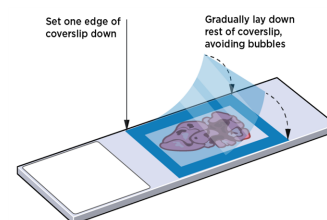

Figure 17: Apply Incubation Frame Cover
- Carefully apply incubation frame cover (Figure 17). Start by setting one edge of the cover down on the incubation frame edge, then gradually lay down the rest of the cover. The tab on the incubation frame cover should face the slide label. As it's lowered, the frame cover should naturally adhere to the incubation frame; no additional pressure around the frame is needed. **Do not press the center of the cover as it could damage the tissue.**